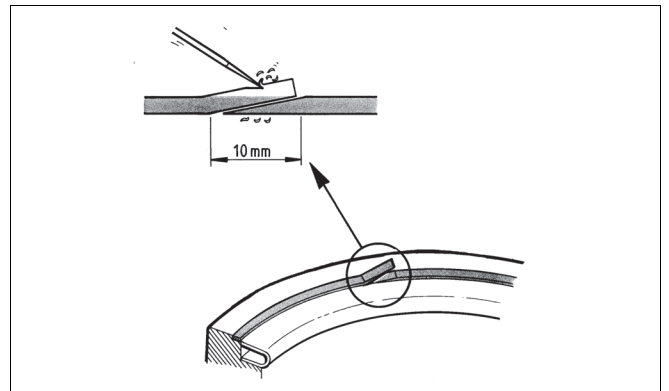

Fig. 13 Mounting the body seal
- Remove the clamp ring (2) by untightening the screws (27).
- Remove the old body seal (19) and the seat ring (4). Change the seat ring if it is damaged.
- Mount a new, self-adhesive body seal (19) into the body. The surface must be clean and free of grease. Handle the ends of the seal according to Fig. 13.